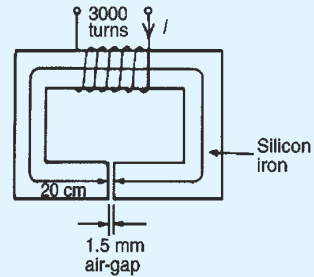

Figure 7.7
4. For the magnetic circuit shown in Fig. 7.7 find the current I in the coil needed to produce a flux of 0.45 mWb in the air-gap. The silicon